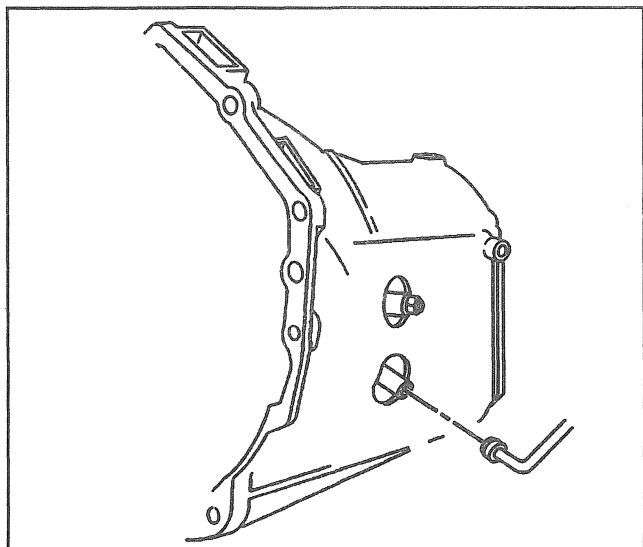

Figure 4—Quick Disconnect on Transmission
Important (Figure 4)
3. Open the bleed screw, located on the side of the trasmission, to expel air. (Figure 4).